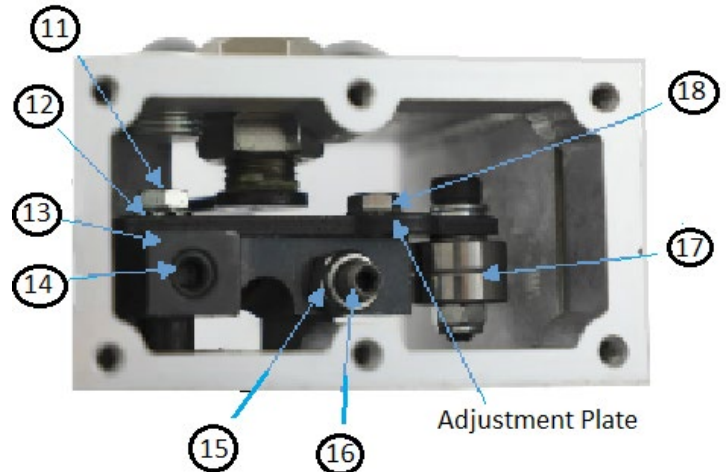

FIGURE 8 ACTUATOR ADJUSTMENT PLATE
11. Carefully loosen screws, Figure 8 (11), and (18) over the slotted portion of the adjustment plate so that the operating lever bearing assembly (17) can be moved away from the fuel rack connection link.
13. Rotate the operating lever (13) out from the actuator until it stops. The armature of the actuator will be in contact with the lower cover. Hold in this position.
14. Rotate the adjustment plate and lever bearing assembly, (17), in towards the fuel rack so that contact between the bearing and rack connection link is made. Continue to push in an additional 1 to 2 mm.
15. While holding this position, torque the operating lever assembly shaft screw, (11) and screw (18) to 4-6 Nm (35-53 in-lb).
18. The operating lever has a maximum fuel adjustment set screw (16) which can be used to restrict the fuel rack travel. Set the fuel adjustment screw and torque the locknut, Figure 8 (15), on the fuel adjustment screw to 5-6 N m (44-53 inlb).